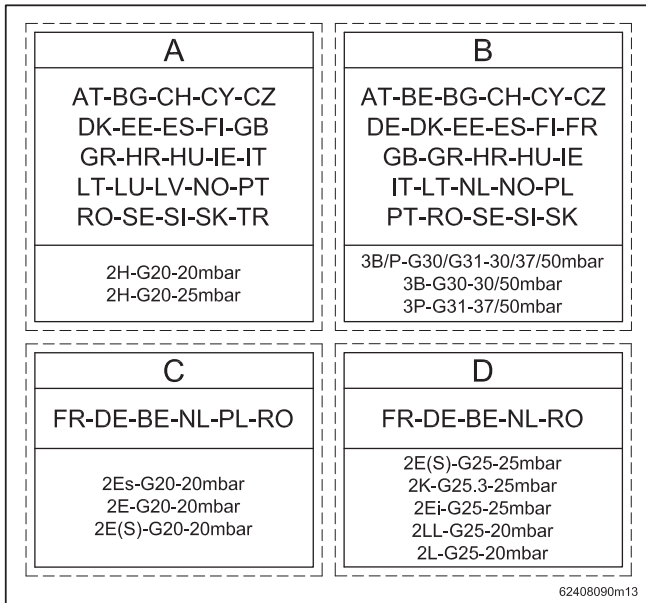

Figure 16-7 – Labels certifying the new boiler status
- 18.- apply the adhesive data plate (see figure 16-7) to the right-hand side of the boiler, in place of the label that identified the old setting status, to certify the boiler's new setting status, as follows: apply label "B" if the boiler has been converted from methane to LPG; apply label "A" if the boiler has been converted from LPG to methane.
- 8.- apply the adhesive data plate (see figure 16-7) to the right-hand side of the boiler, in place of the label that identified the old setting status, to certify the boiler's new setting status, as follows: apply label "B" if the boiler has been converted to G31; apply label "A" if the boiler has been converted to G20.